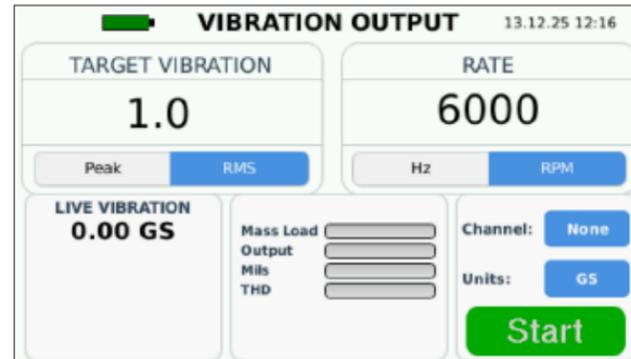

Figure 9
1. From the main menu screen, select **Vibration Output** to open the Vibration Output screen (Figure 9).